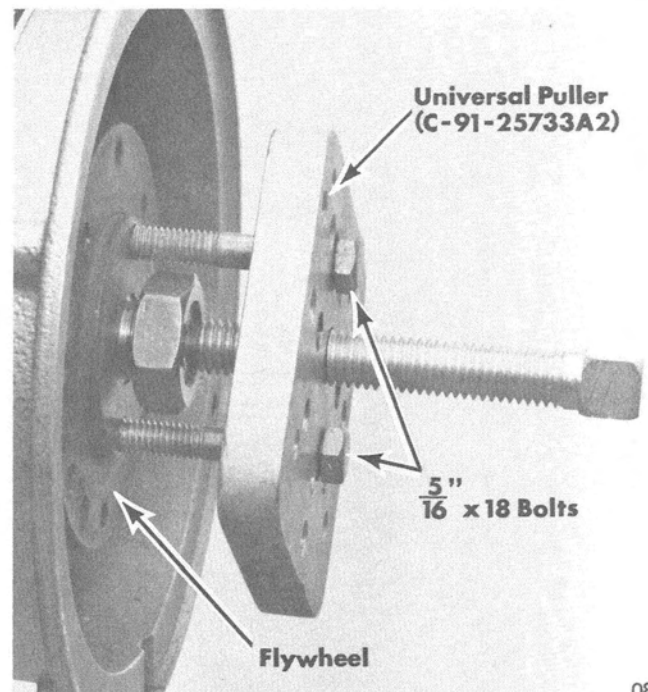

Figure 2. Flywheel Removal
- d. Install modified (refer to template, Section 9) Universal Puller (C-91-25733A2) on flywheel. (Figure 2) Use crankshaft protector or reinstall flywheel nut to protect crankshaft from damage.